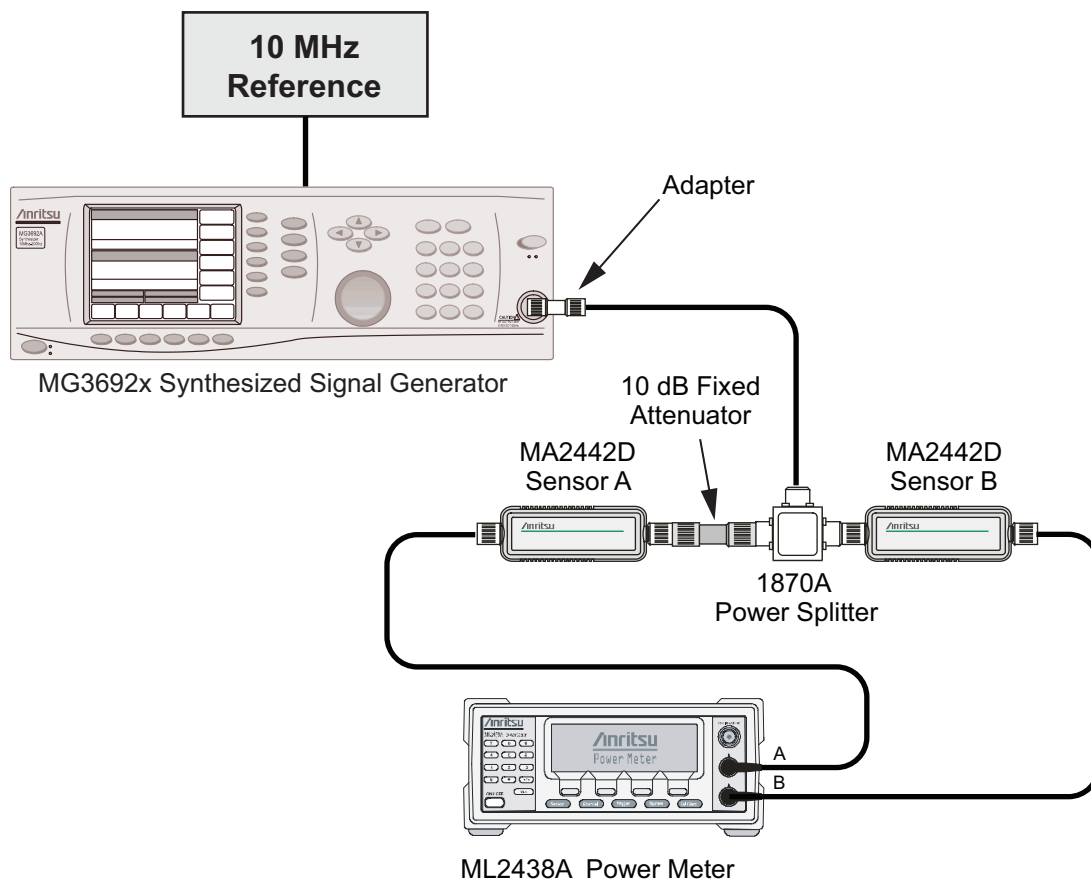

Figure 2-1. Absolute Amplitude Accuracy Verification Pretest Setup
3. Install the 10 dB Fixed Attenuator to the other Power Splitter Output and then connect Sensor A to the end of the attenuator as shown in Figure 2-1, “Absolute Amplitude Accuracy Verification Pretest Setup”.